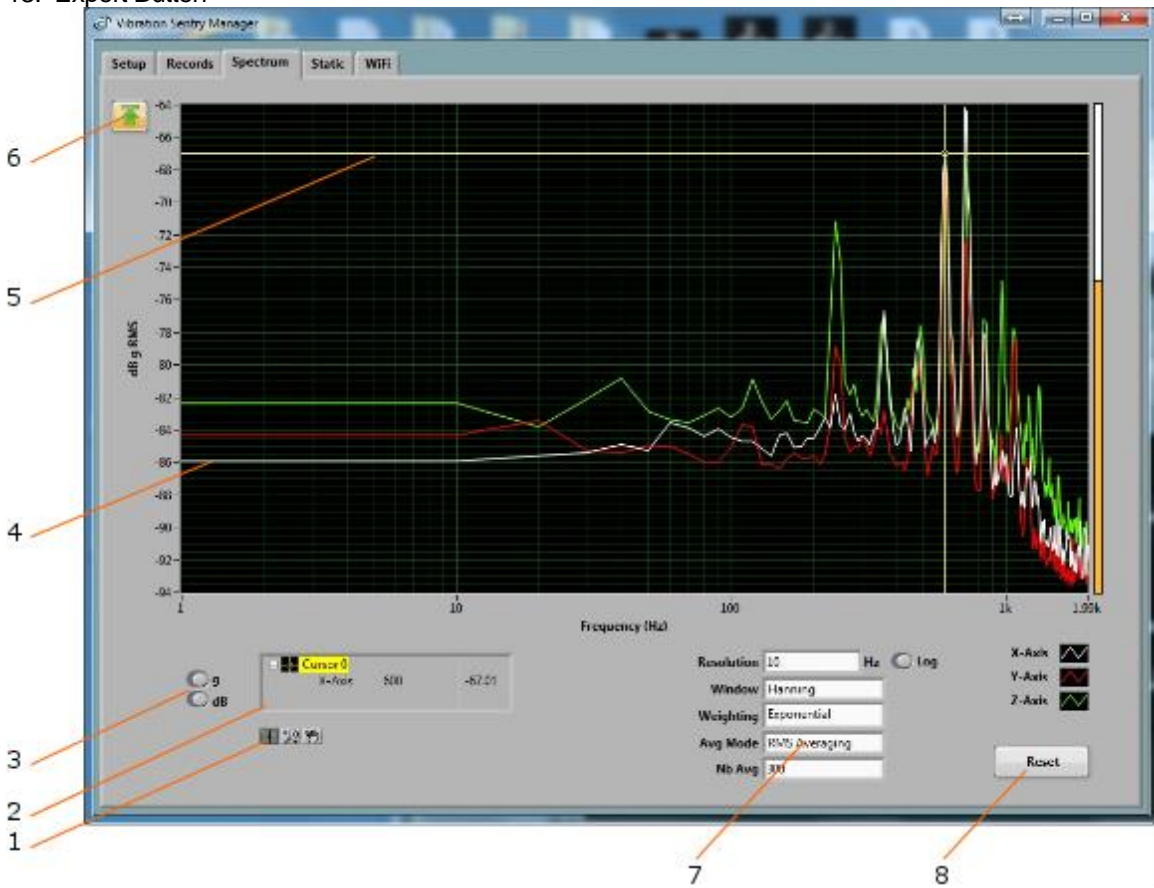

Figure 12 Spectrum Tab
- **The Spectrum Tab:** Is used to display a real-time power spectrum from the `VSEW_mk4` (see Figure 12).